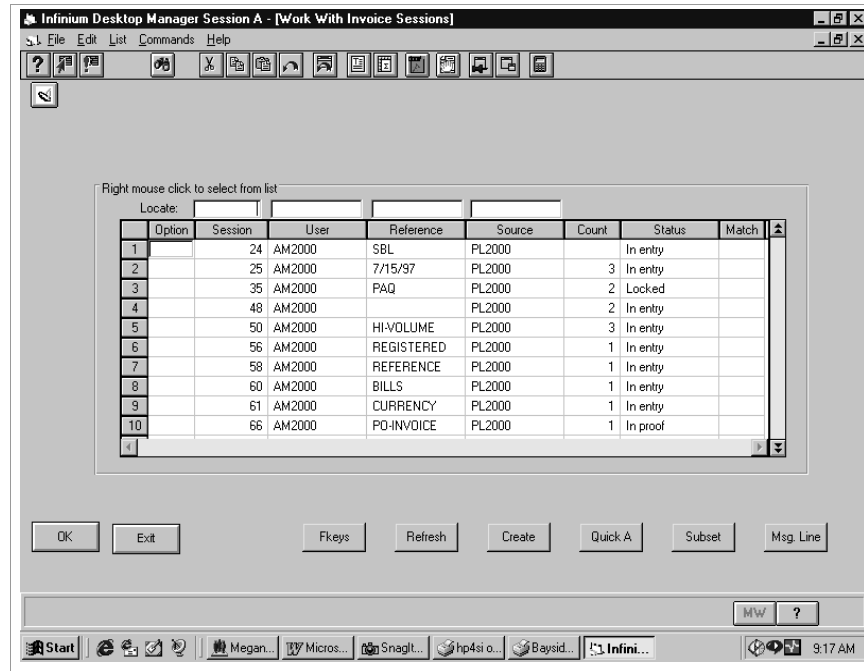

Figure 7-6: Work With Invoice Sessions screen
- 2 Select *Work with invoice entry* [WWI]. The system displays the screen shown in Figure 7-6.